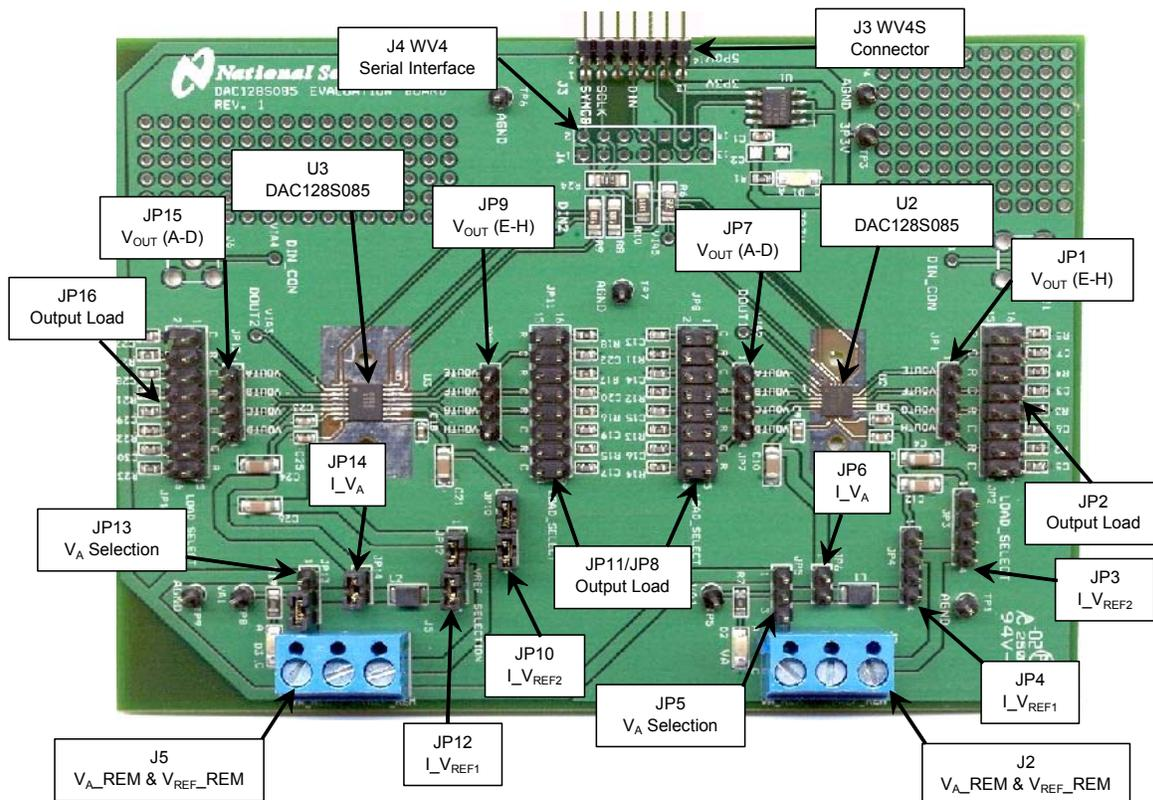
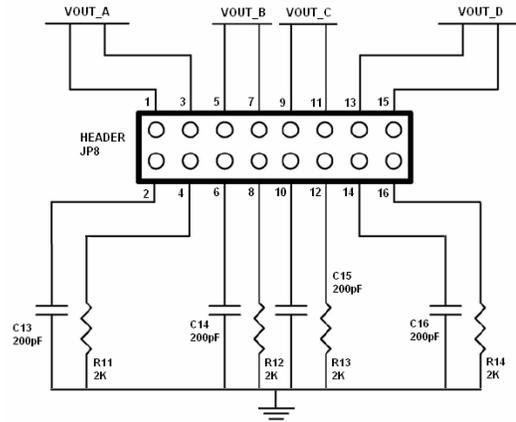
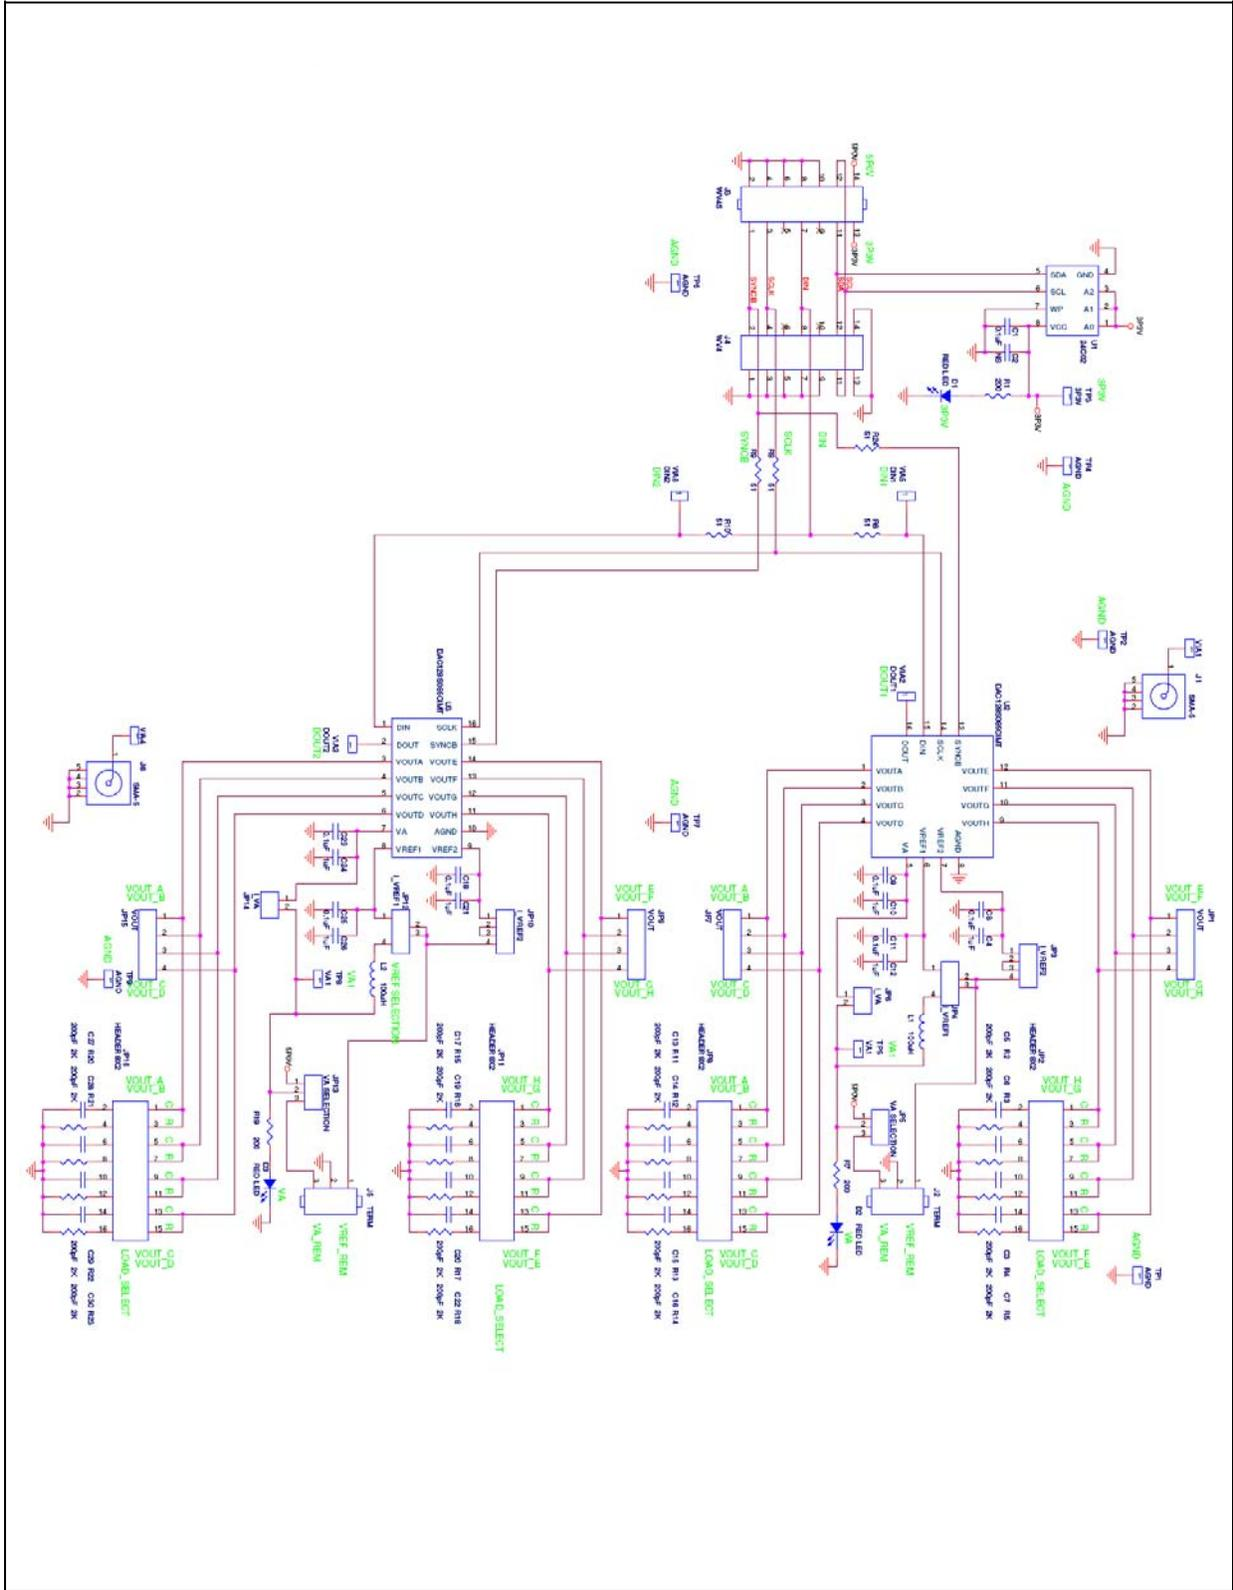

Figure 1: Locations of Test Points and Major Components
Figure 4: JP8 Load Select Header
Figure 7: DAC128S085 Evaluation Board Schematic
The DAC128S085 evaluation board comes fully assembled and ready for use with the WV4 (or higher) system. Refer to the Bill of Materials for a description of components, to *Figure 1* for major component placement, and to *Figure 7* for the Evaluation Board schematic.
Refer to *Figure 1* or the evaluation board schematic (*Figure 7*) for locations of test points and major components.
8. Select the desired output load by adding jumpers to headers JP8/JP16 for outputs A-D and JP2/JP11 for outputs E-H. See *Figure 4* for the configuration of header JP8. Refer to *table 1* in Section 4.0 or the evaluation board schematic (*Figure 7*) for all configurations.
Refer to *Figure 1* for locations of test points and major components.
Table 1 describes the function of the various jumpers on the DAC128S085 evaluation board. The Evaluation Board schematic is shown in Figure 7.
The analog output of this evaluation board is available DC coupled at the header JP7/JP15 and JP1/JP9. For loaded outputs refer to *Figure 4* and *table 1*.